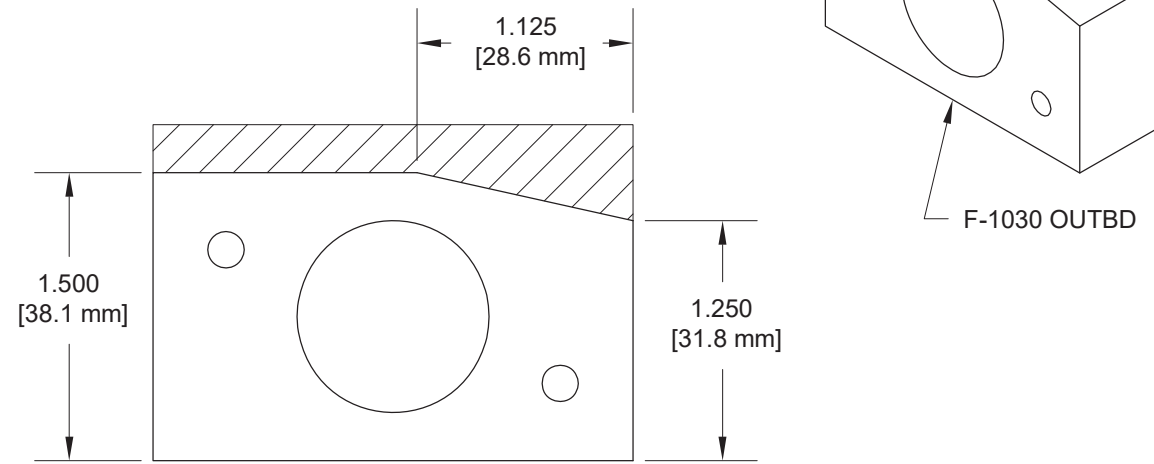

FIGURE 1: TRIM OUTBOARD UHMW BUSHINGS
Step 1: Trim two F-1030 UHMW Bushings to fabricate the two F-1030 Outboard Bushings. See Figure 1.